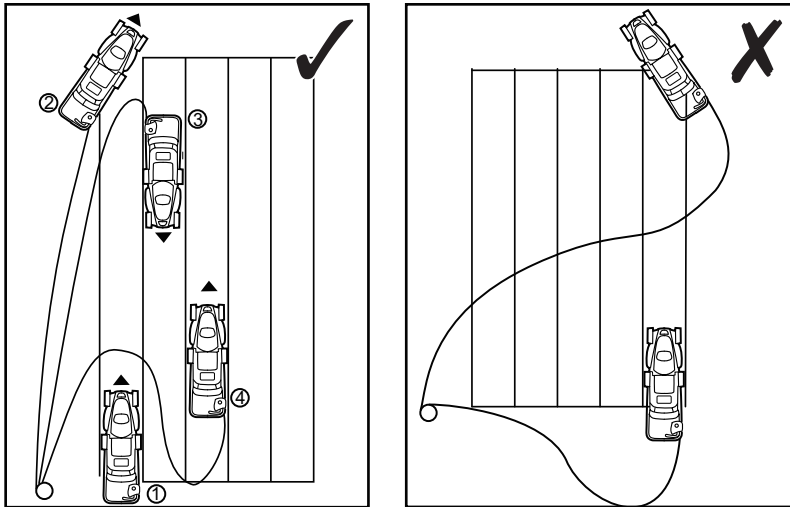

Fig. 15
- Keep extension cords away from the blades. The blades can cause damage to the cords and lead to contact with live parts (Fig. 15).